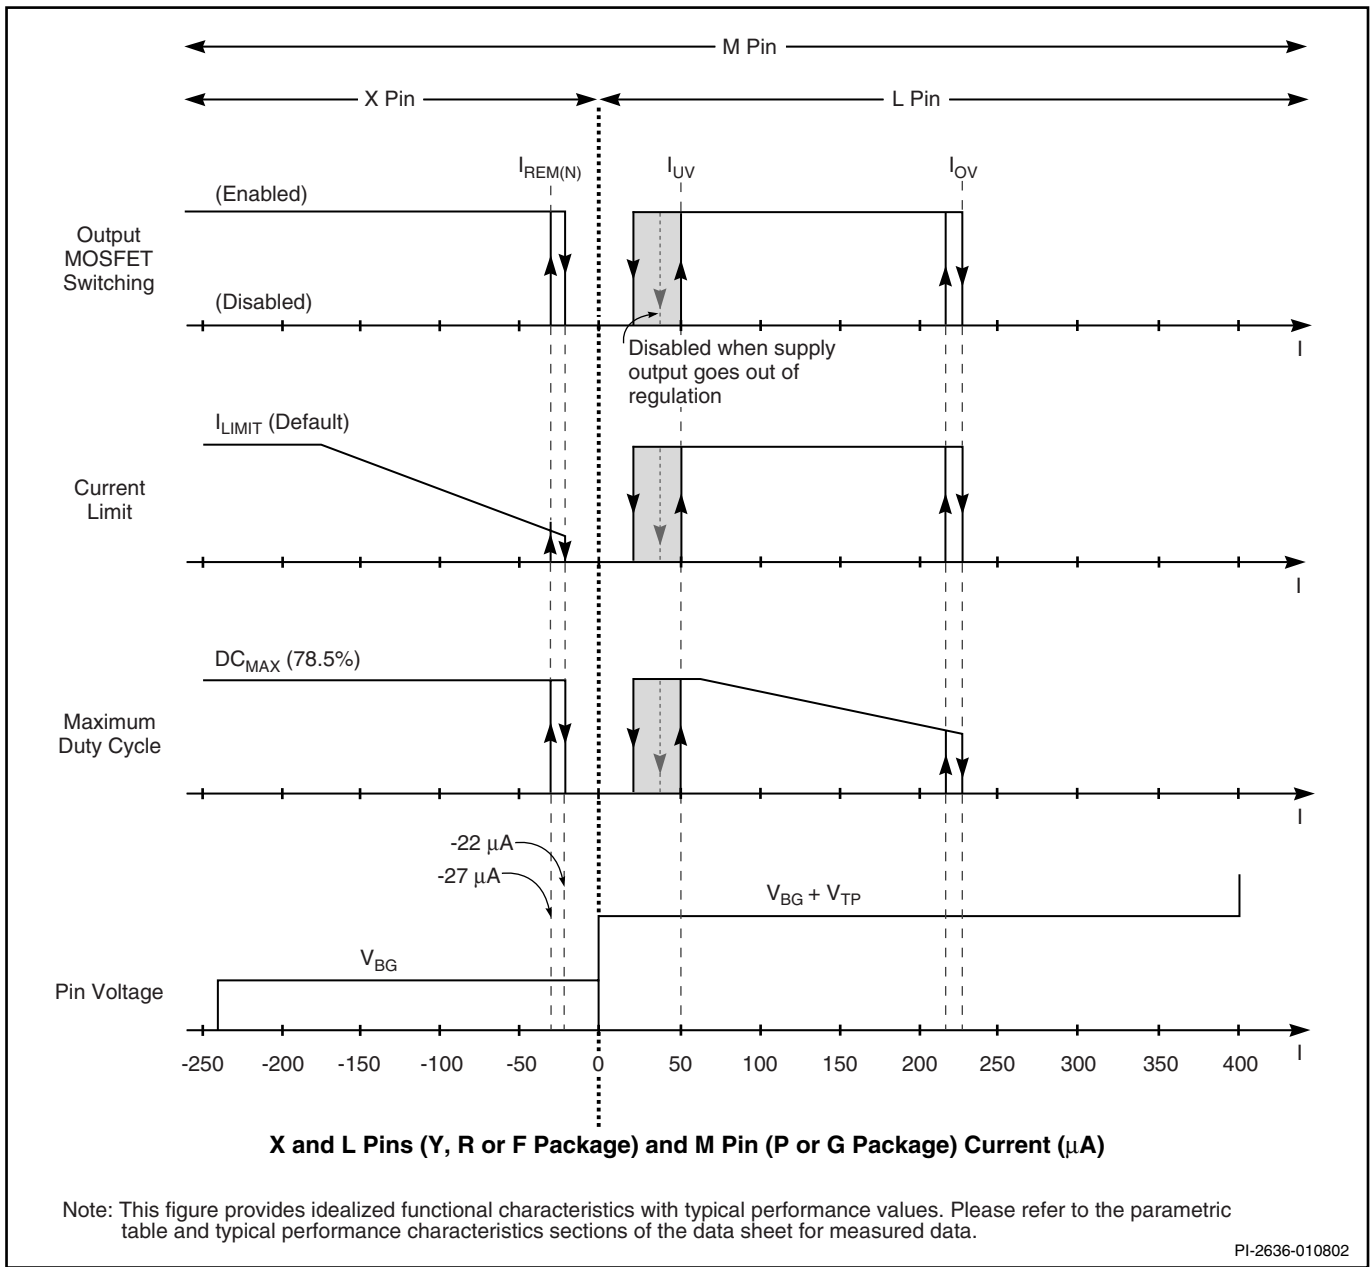
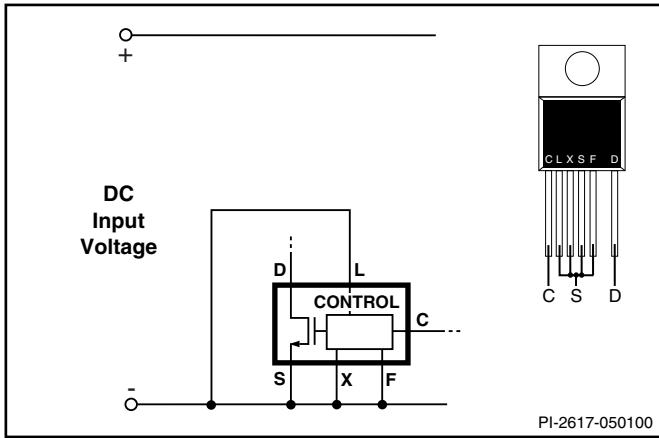
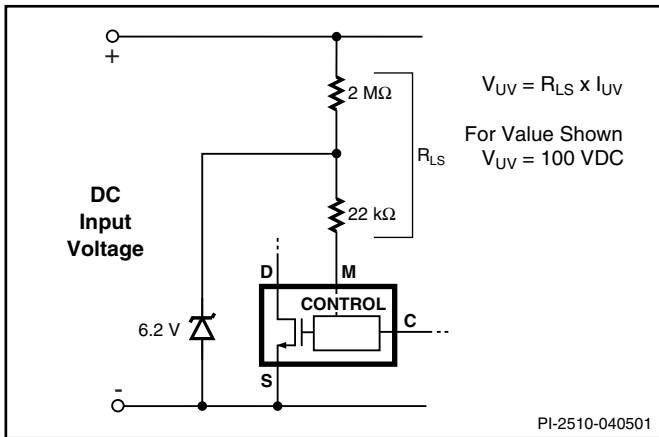

Figure 11. MULTI-FUNCTION (P or G package), LINSE-SENSE, and EXTERNAL CURRENT LIMIT (Y, R or F package) Pin Characteristics.
Figure 16. Three Terminal Operation (LINE-SENSE and EXTERNAL CURRENT LIMIT Features Disabled. FREQUENCY Pin Tied to SOURCE or CONTROL Pin).
Figure 18. Line-Sensing for Under-Voltage Only (Overvoltage Disabled).
The LINE-SENSE (L) pin is usually used for line sensing by connecting a resistor from this pin to the rectified DC high voltage bus to implement line overvoltage (OV), under-voltage (UV) and line feed-forward with DC_{MAX} reduction. In this mode, the value of the resistor determines the OV/UV thresholds and the DC_{MAX} is reduced linearly starting from a line voltage above the under-voltage threshold. See Table 2 and Figure 11.
The EXTERNAL CURRENT LIMIT (X) pin is usually used to reduce the current limit externally to a value close to the operating peak current, by connecting the pin to SOURCE through a resistor. This pin can also be used as a remote ON/OFF and a synchronization input in both modes. See Table 2 and Figure 11.
The maximum duty cycle, DC_{MAX} , is set at a default maximum value of 78% (typical). However, by connecting the LINE-SENSE or MULTI-FUNCTION pin (depending on the package) to the rectified DC high voltage bus through a resistor with appropriate value, the maximum duty cycle can be made to decrease from 78% to 38% (typical) as shown in Figure 11 when input line voltage increases (see line feed forward with DC_{MAX} reduction).
The same resistor used for UV also sets an overvoltage threshold which, once exceeded, will force *TOPSwitch-GX* output into off-state. The ratio of OV and UV thresholds is preset at 4.5 as can be seen in Figure 11. When the MOSFET is off, the rectified DC high voltage surge capability is increased to the voltage rating of the MOSFET (700 V), due to the absence of the reflected voltage and leakage spikes on the drain. A small amount of hysteresis is provided on the OV threshold to prevent noise triggering. The OV feature can be disabled independent of the UV feature as shown in Figures 18 and 32.
feature, the maximum duty cycle DC_{MAX} is also reduced from 78% (typical) at a voltage slightly higher than the UV threshold to 30% (typical) at the OV threshold (see Figure 11). Limiting DC_{MAX} at higher line voltages helps prevent transformer saturation due to large load transients in TOP248, TOP249 and TOP250 forward converter applications. DC_{MAX} of 38% at high line was chosen to ensure that the power capability of the *TOPSwitch-GX* is not restricted by this feature under normal operation.
TOPSwitch-GX can be turned on or off by controlling the current into the LINE-SENSE pin or out from the EXTERNAL CURRENT LIMIT pin (Y, R or F package) and into or out from the MULTI-FUNCTION pin (P or G package) (see Figure 11). In addition, the LINE-SENSE pin has a 1 V threshold comparator connected at its input. This voltage threshold can also be used to perform remote ON/OFF control. This allows easy implementation of remote ON/OFF control of *TOPSwitch-GX* in several different ways. A transistor or an optocoupler output connected between the EXTERNAL CURRENT LIMIT or LINE-SENSE pins (Y, R or F package) or the MULTI-FUNCTION pin (P or G package) and the SOURCE pin implements this function with “active-on” (Figures 22, 29 and 36) while a transistor or an optocoupler output connected between the LINE-SENSE pin (Y, R or F package) or the MULTI-FUNCTION (P or G package) pin and the CONTROL pin implements the function with “active-off” (Figures 23 and 37).
There are a total of four functions available through the use of the LINE-SENSE pin: OV, UV, line feed-forward with DC_{MAX} reduction, and remote ON/OFF. Connecting the LINE-SENSE pin to the SOURCE pin disables all four functions. The LINE-SENSE pin is typically used for line sensing by connecting a resistor from this pin to the rectified DC high voltage bus to implement OV, UV and DC_{MAX} reduction with line voltage. In this mode, the value of the resistor determines the line OV/UV thresholds, and the DC_{MAX} is reduced linearly with rectified DC high voltage starting from just above the UV threshold. The pin can also be used as a remote ON/OFF and a synchronization input. Refer to Table 2 for possible combinations of the functions with example circuits shown in Figure 16 through Figure 40. A description of specific functions in terms of the LINE-SENSE pin I/V characteristic is shown in Figure 11 (right hand side). The horizontal axis represents LINE-SENSE pin current with positive polarity indicating currents flowing into the pin. The meaning of the vertical axes varies with functions. For those that control the ON/OFF states of the output such as UV, OV and remote ON/OFF, the vertical axis represents the enable/disable states of the output. UV triggers at I_{UV} (+50 μ A typical with 30 μ A hysteresis) and OV triggers at I_{OV} (+225 μ A typical with 8 μ A hysteresis). Between the UV and OV thresholds, the output is enabled. For line feed-forward with
There are two functions available through the use of the EXTERNAL CURRENT LIMIT pin: external current limit and remote ON/OFF. Connecting the EXTERNAL CURRENT LIMIT pin to the SOURCE pin disables the two functions. In high efficiency applications, this pin can be used to reduce the current limit externally to a value close to the operating peak current by connecting the pin to the SOURCE pin through a resistor. The pin can also be used for remote ON/OFF. Table 2 shows several possible combinations using this pin. See Figure 11 for a description of the functions where the horizontal axis (left hand side) represents the EXTERNAL CURRENT LIMIT pin current. The meaning of the vertical axes varies with function. For those that control the ON/OFF states of the output such as remote ON/OFF, the vertical axis represents the enable/disable states of the output. For external current limit, the vertical axis represents the magnitude of the I_{LIMIT} . Please see graphs in the Typical Performance Characteristics section for the current limit programming range and the selection of appropriate resistor value.
be used as a remote ON/OFF and a synchronization input in both modes. Please refer to Table 3 for possible combinations of the functions with example circuits shown in Figure 30 through Figure 40. A description of specific functions in terms of the MULTI-FUNCTION pin I/V characteristic is shown in Figure 11. The horizontal axis represents MULTI-FUNCTION pin current with positive polarity indicating currents flowing into the pin. The meaning of the vertical axes varies with functions. For those that control the ON/OFF states of the output such as UV, OV and remote ON/OFF, the vertical axis represents the enable/disable states of the output. UV triggers at I_{UV}